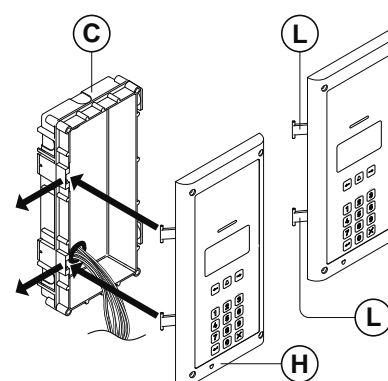
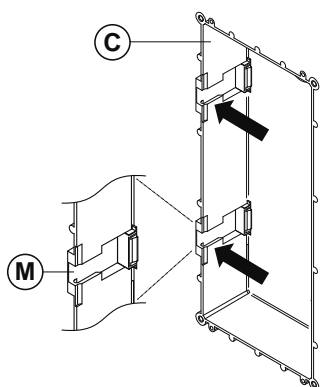

Fig. 51
Fig. 52
6. Take the frame's hinges (L) and hook the module support frame (H) to the flush box (C), starting from the left following the guide arrows, as shown in **Fig.51**. Ensure that the frame's hinges (L) (**Fig.51**) fit inside the relevant hinge mounts (M) inside the flush box (C), as shown in **Fig.52**;